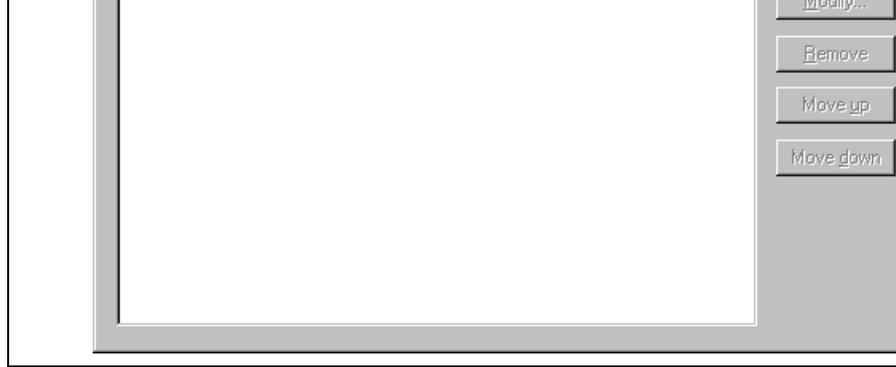

Figure 8.3: Modify System Menu Option (Example)
2. Select the option to be modified from the “System menu options and toolbar buttons” list and then click the “Modify...” button. The dialog shown in * MERGEFORMAT figure 8.3 will be displayed. Figure 8.3 shows a dialog when “Add File(s)” has been selected for example.